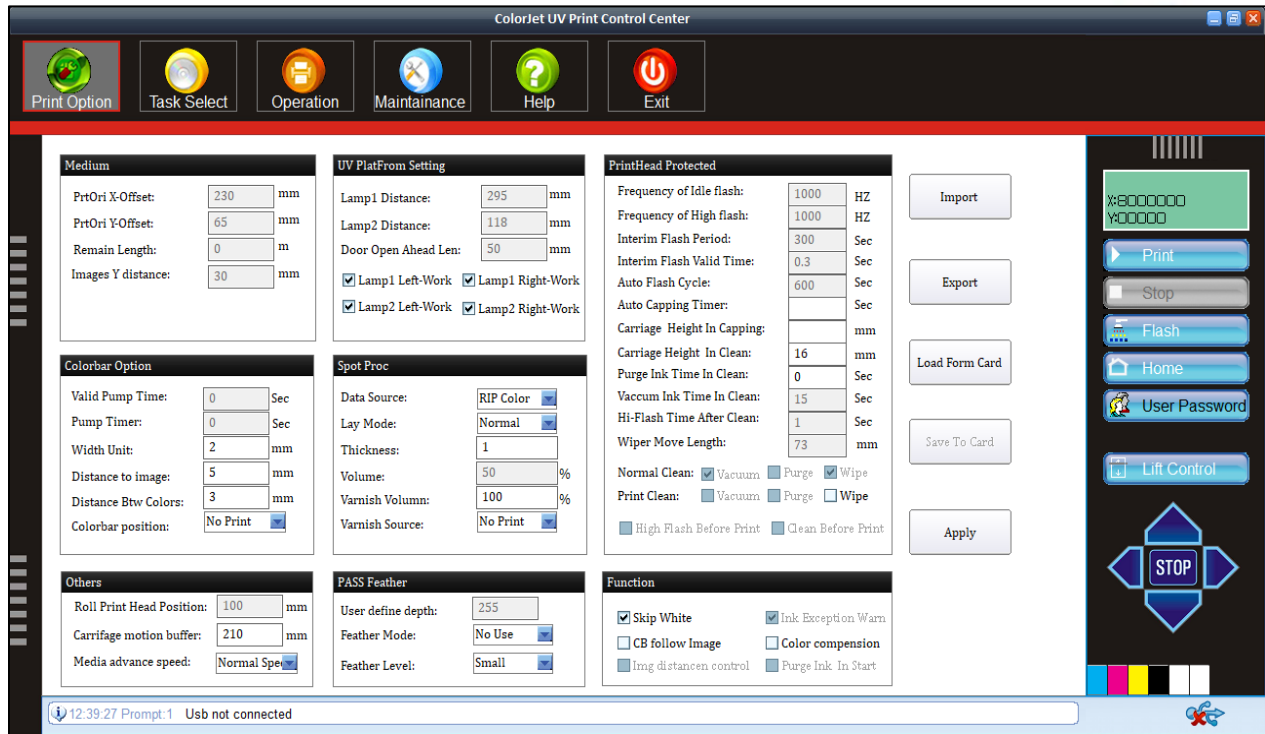

Figure 24: Print Option Screen
Step 1 Click on the **Import** button to import a file (Refer to **Figure 24**). The **Open** dialog box appears on the screen, as shown below: